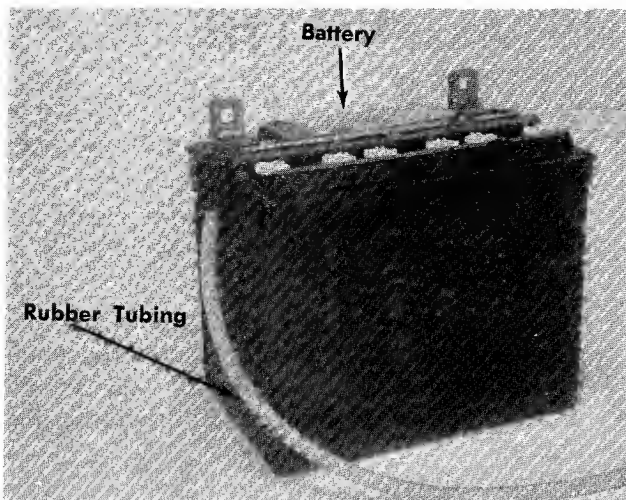

FIGURE 5.
3. Insert one end of the rubber tubing into the manifold vent on the battery and place the other end through the clamp next to the battery case and down through the frame. See figure 5.